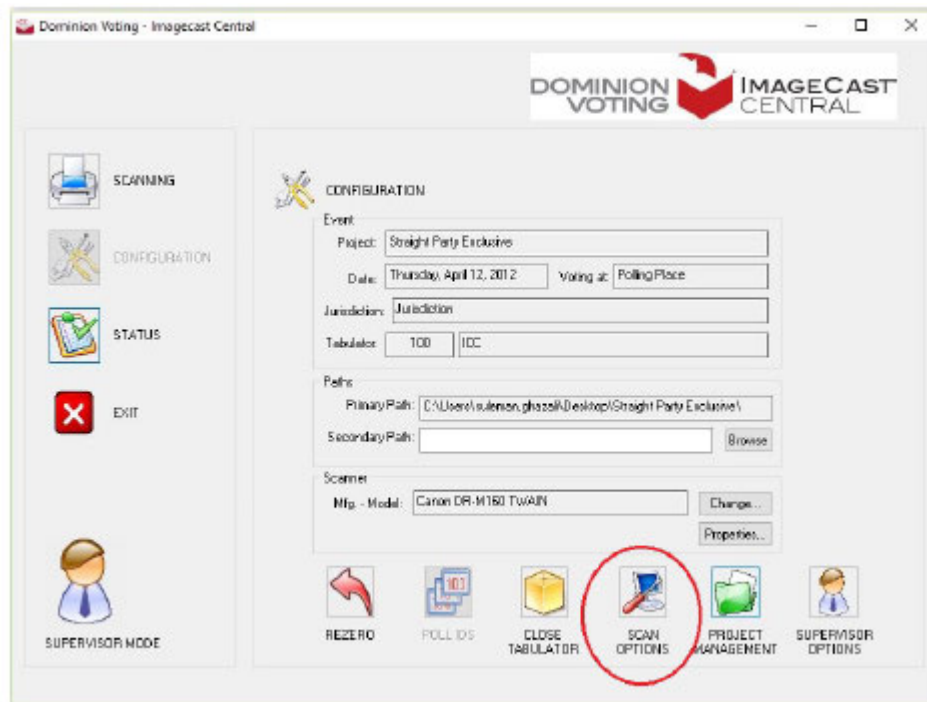

Figure 2-6: Supervisor Mode Window
3. In Supervisor Mode, click **Scan Options**. See Figure 2-6